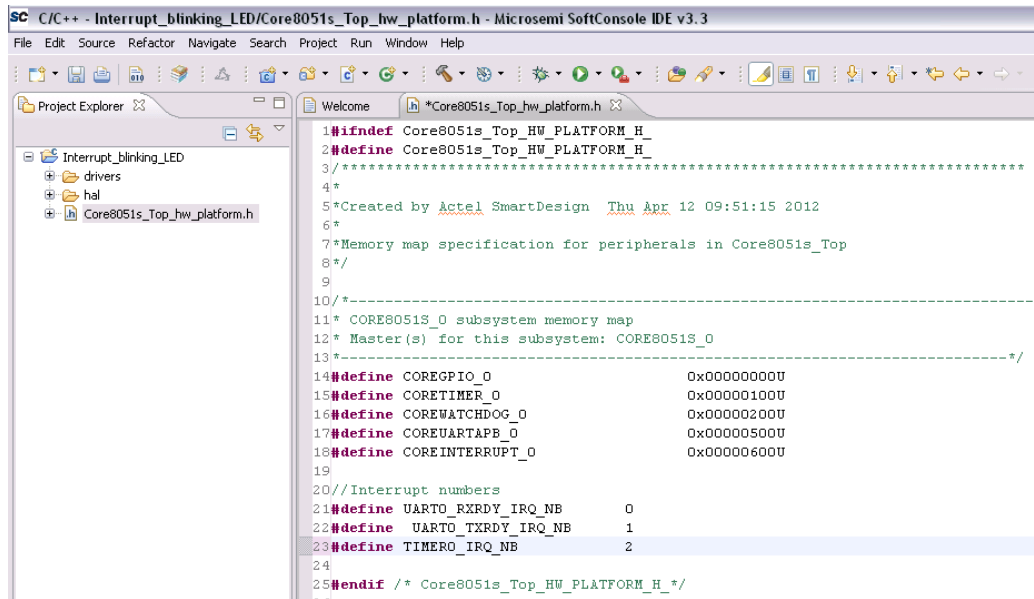

Figure 25 Modified Hardware Platform File
9. Open Core8051s_sys_hw_platform.h file and add the following definitions (Figure 25).